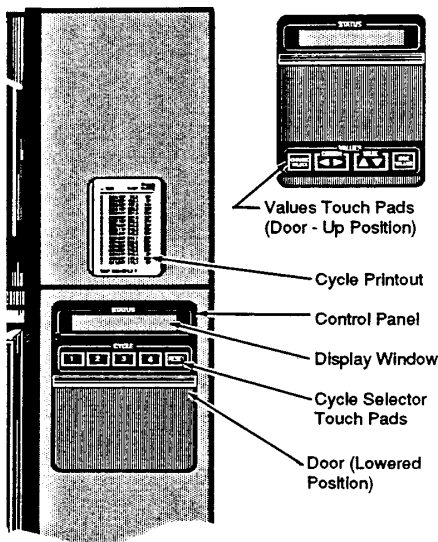

Figure 2-2. Control Panel
2.2 Operating End Control Panel (See Figure 2-2)
2.3 Non-Operating End Control Panel (Double-Door Sterilizers) (See Figure 2-2)
2.4 Reset Function (See Figure 2-2)